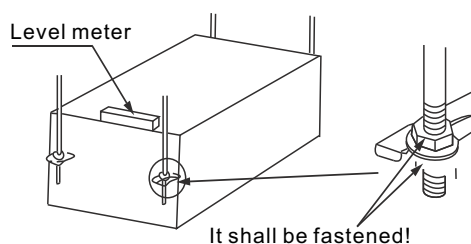

Figure 3.9
3) Confirm the levelness of the main body by the level meter (strictly prohibit the declination toward the non-drain side. It had better decline toward the drain side). Refer to Figure 3.9.